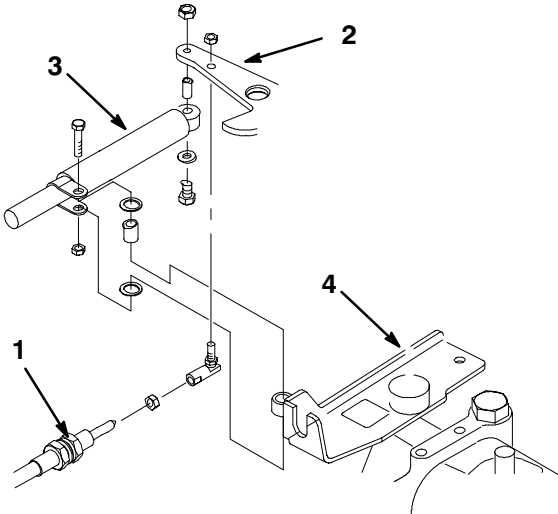

Figure 5
14. Rotate traction cable ball joint 180° and secure to **underside** of pump lever with locknut previously removed (Fig. 5).
15. Secure traction cable to cable support with jam nuts previously removed (Fig. 5).
16. Secure lever damper to **underside** of pump lever with capscrew, washer, pivot spacer and nut previously removed (Fig. 5).
17. Mount lever damper to cable support with capscrew, (2) washers, tube spacer and nut previously removed (Fig. 5).